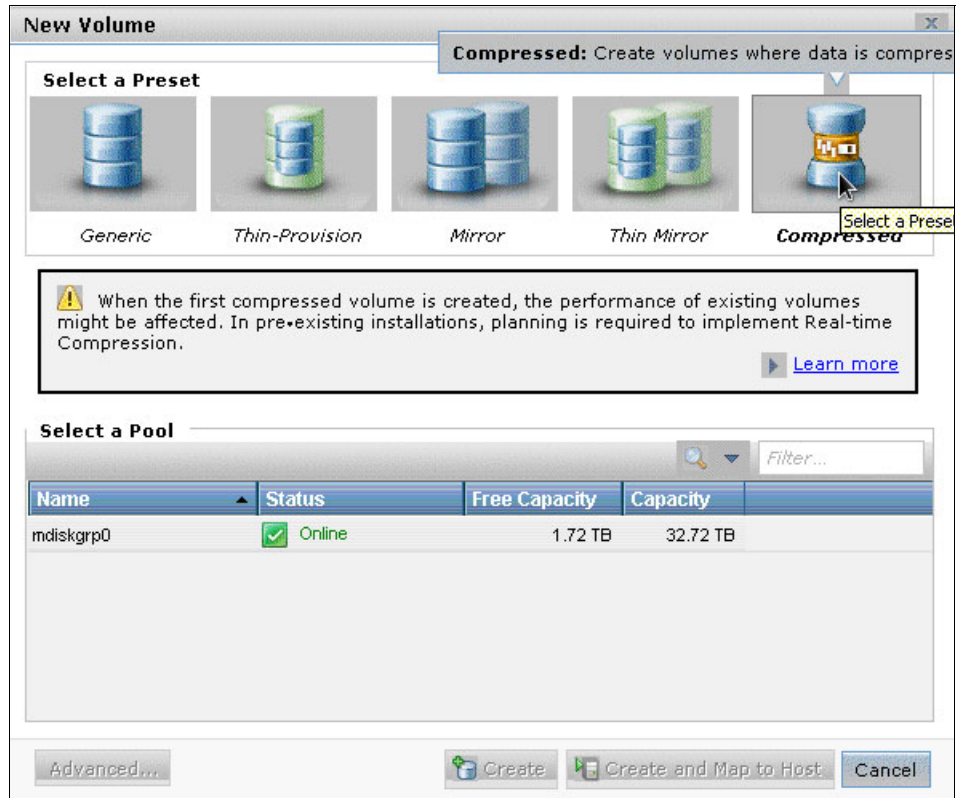

Figure 2-29 Creating a volume
3. In the New Volume window, click the **Compressed** icon to create a Compressed volume, as shown in Figure 2-29.